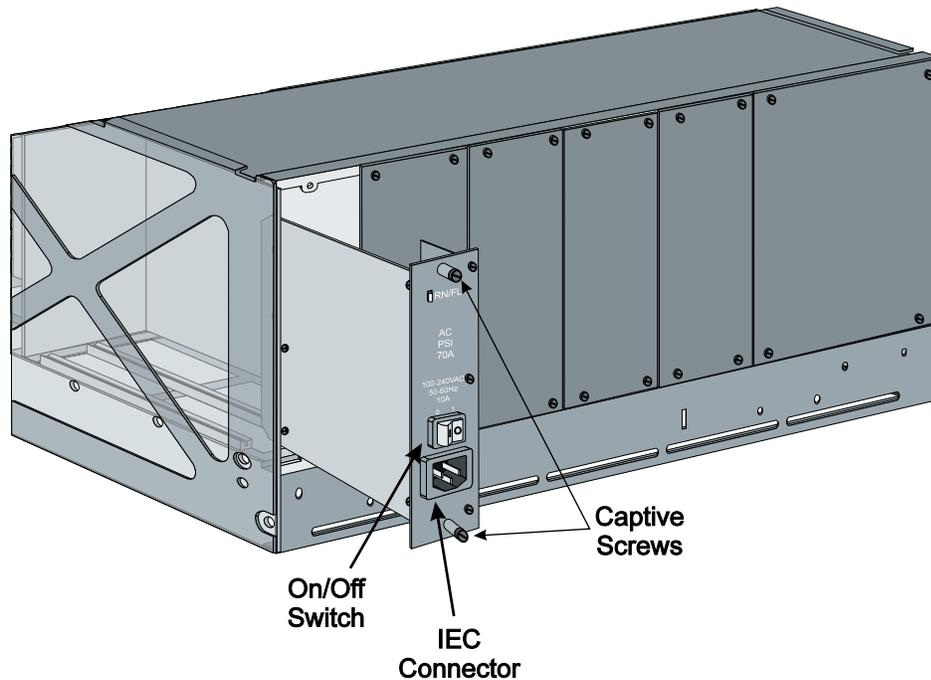

Figure 14. PSI Installation
- 3 Insert the PSI into the slot in the rear of the chassis corresponding to the slot in which you installed the PSU. See Figure 14.